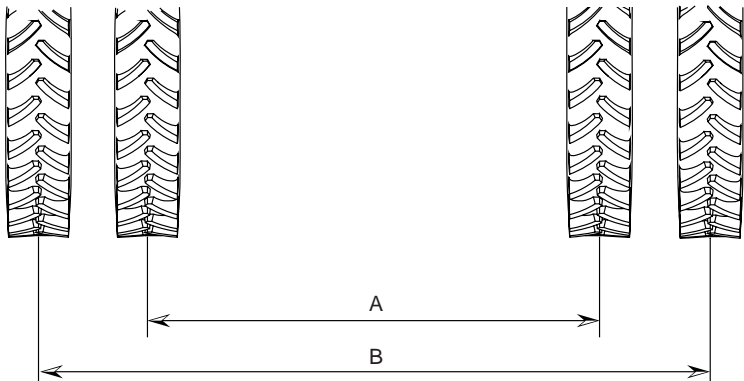

Fig. 6
The wheel tread on the COMMANDER 750 can be altered infinitely from 60.5" (1540mm) to 88" (2235mm) by extending or retracting the wheel axle (Fig. 6). To obtain track gauges 78-88" (1980-2235mm) the wheels must be reversed and exchanged side to side.
The standard axle system on the Commander 875/1200 allows for infinite adjustment of the wheel tread from 60" to 80" (Fig. 6). An optional axle system has infinite adjustment of the axle tread from 72" to 90". In addition, a 120" or 132" fixed axle system is available which
1. Measure the correct wheel tread (Fig. 6) (center right tire to center left tire). Each side must be extended or retracted half the desired alteration.